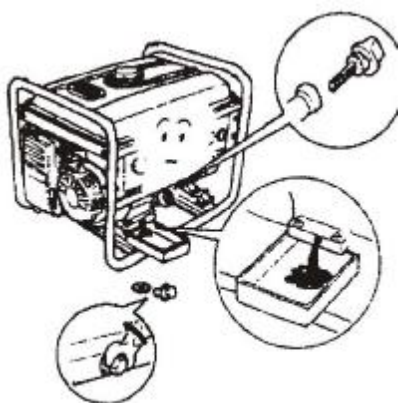

Fig. 37
7.2.1 Unscrew and take out the dipstick (Figure 37)